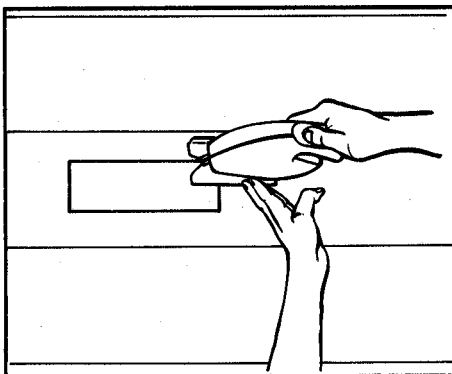

Figure 3
1. Cut opening 3 1/2" x 10 1/4" in wall so that wall cap will line up easily with ductwork. (Fig. 3)